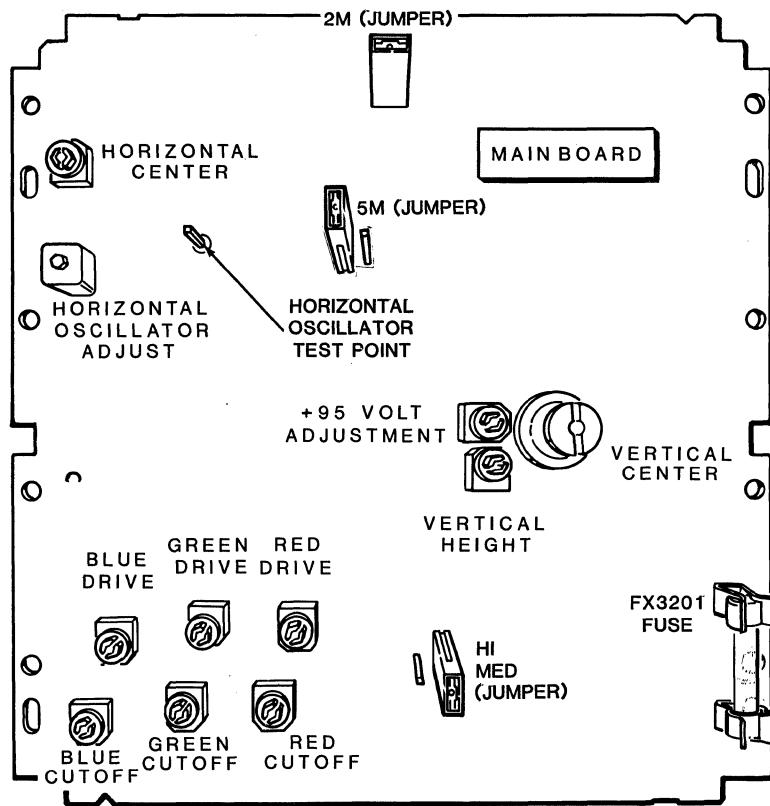

Figure 5
1. Turn each control (R2506-RED, R2516-GREEN, and R2527-BLUE) fully counterclockwise (see Figure 5).
The +95 volt (B+) adjustment is located on the main board. The test point is located on the sweep board (see Figures 5 and 6).